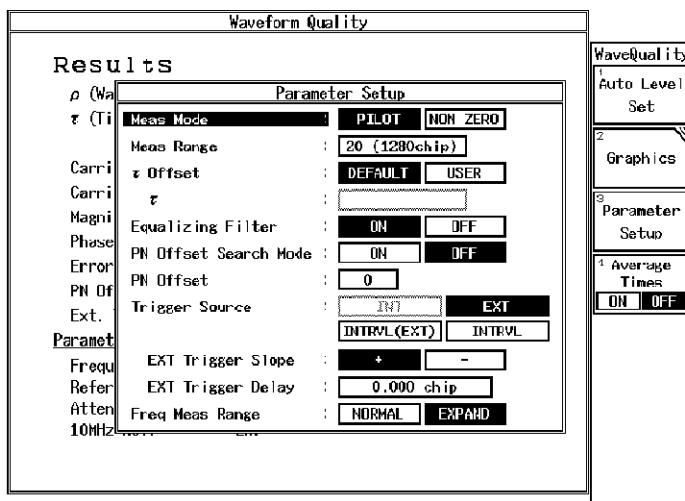

Figure 6-3 Setting of Measurement Parameter for Forward Link Waveform Quality Test
6. On the R3267 Series, set the measurement parameter as shown in Figure 6-3.